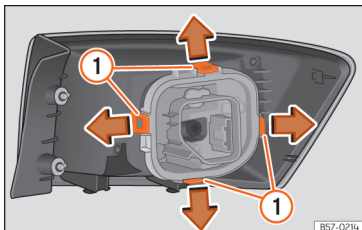

Fig. 60 Retaining tabs on reverse side of tail light.
- Disassemble the bulb holder unlocking the securing tabs » **Fig. 60** ①.